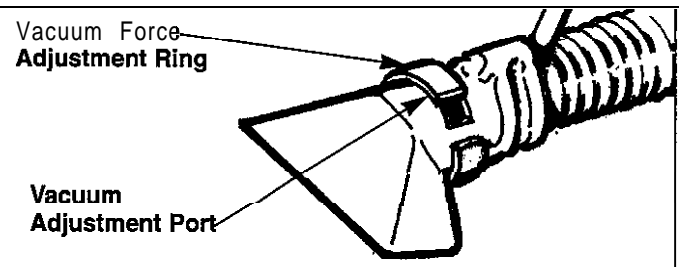

Figure 7. Vacuum Force Adjustment
10. **To** reduce vacuum force, adjust the **moveable** ring to gradually open the vacuum adjustment port (Figure 7).